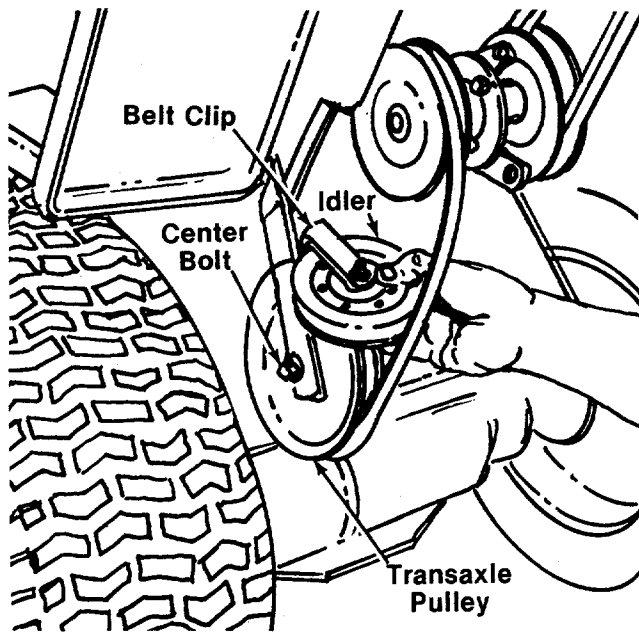

FIGURE 17.
Be sure the belt clip is reassembled the same way. See figure 17.
6. Remove the center bolt and slide the transaxle pulley off. See figure 17.